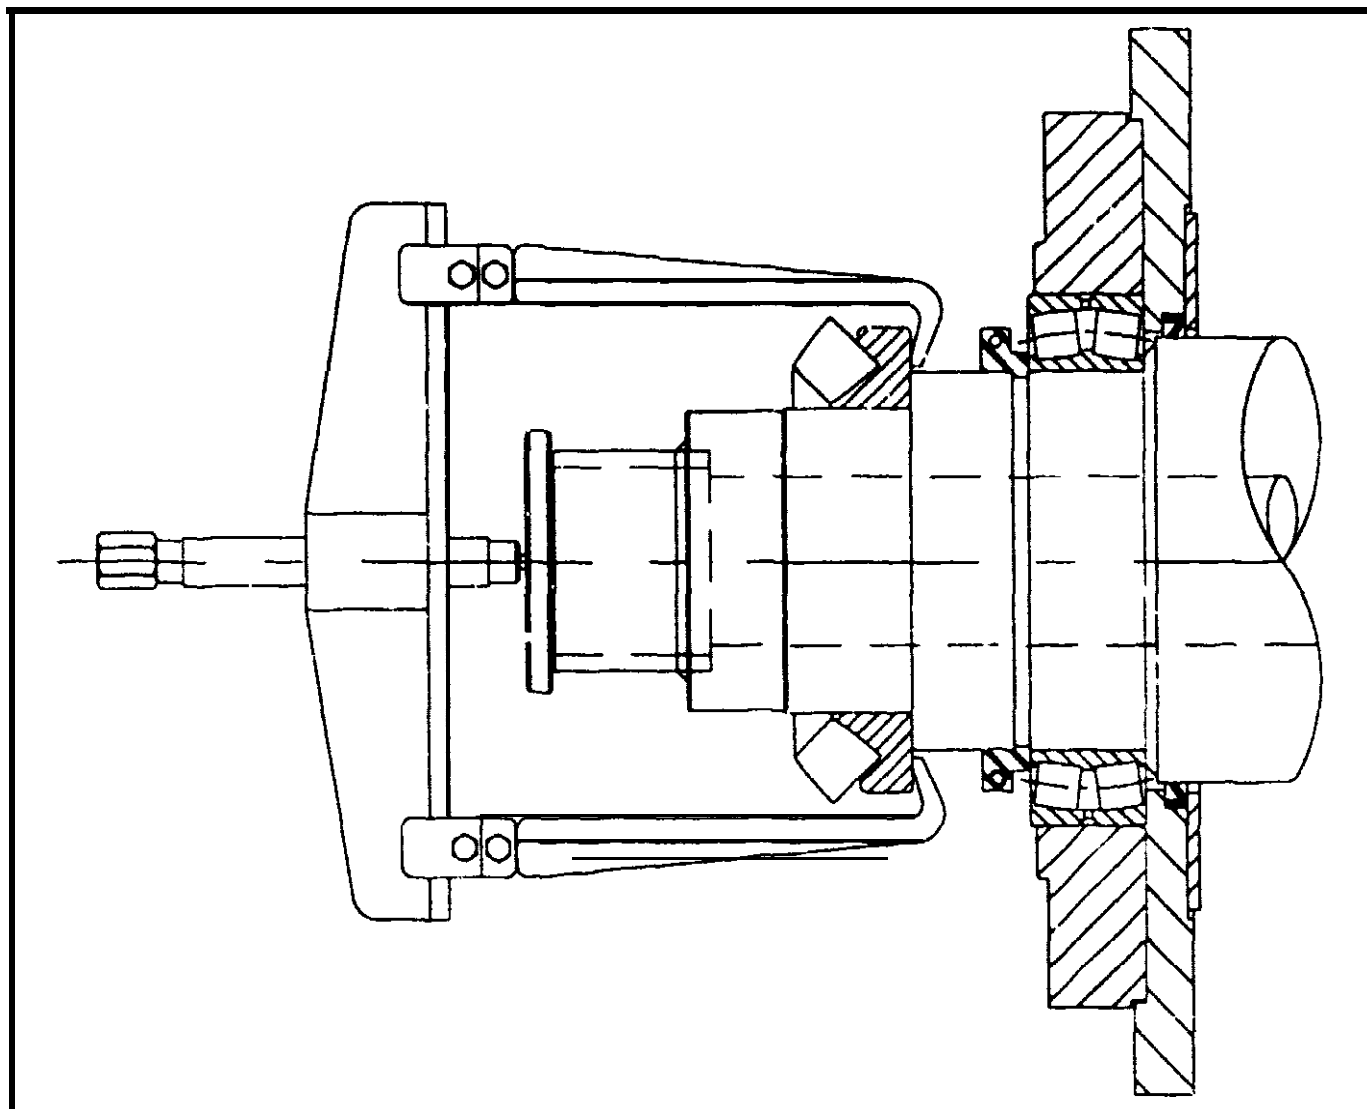

Figure 5.4-3
5. Using a suitable bearing puller, remove the thrust bearing cone (i.e. race and rollers) from the shaft. A suggested puller arrangement is shown in Figure 5.4-3.